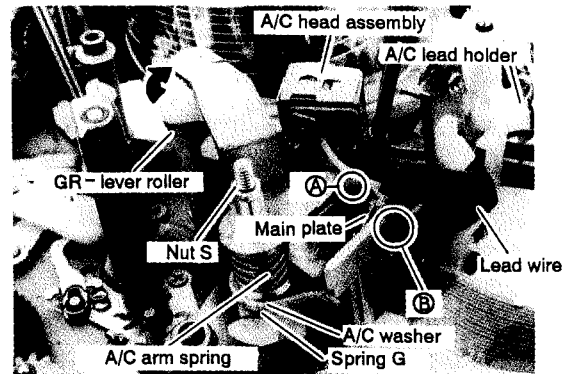

Fig. 3-9-1
- ③ Attach the A/C arm spring and GR-lever to the A/C plate shaft. For mounting status of the A/C arm spring, see Fig. 3-9-1.
- ④ Attach the A/C head assembly to the shaft of the capstan motor stator. To do so, move the GR-lever roller in the direction of arrow in Fig. 3-9-1. Orient the assembly so that the GR-lever tip ④ is inside the main plate and the A/C head phase adjuster screw ⑤ of the A/C plate is outside the main plate.
- ⑤ Tighten the nut S (temporary).
- ⑥ Place the master plane (see para. 3).
- ⑦ Place the height adjusting square on the master plane.
- ⑧ Adjust nut S so that the center of the distance between measuring faces ⑥ and ⑦ of the square is at the same level of the edge of the lower flange of GR-lever roller. This is a careful adjustment since the distance between the ⑥ and ⑦ faces is small.